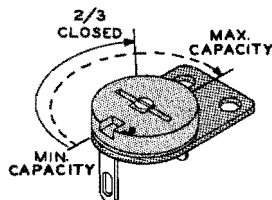

Figure 28
- (✓) Set the Carrier Oscillator trimmer capacitor C80 2/3 closed. See Figure 28.
- (X) VOX SENSITIVITY - Clockwise.
- (X) FUNCTION switch PTT-VOX.
- (X) With the Transmitter key down, tune the DRIVER and FINAL TUNE controls for full output power.
- (X) Tune the station receiver to maximum "S" meter reading on the Transmitter Frequency. Shorten the receiving antenna so that with the receiver RF gain full on (with no transmitter output) the "S" meter indicates zero "S" units and full scale with maximum transmitter output.
- (X) Now change the transmitter and receiver MODE switches to USB. Maintain the receiver setting. Using a temporary jumper, short microphone pin 2 to ground. This will key the Transmitter. Be sure the AUDIO GAIN control is counterclockwise.
- (X) Rotate Carrier Null potentiometer, R118, until a minimum receiver "S" meter reading is indicated.
- (X) Rotate Carrier Null trimmer capacitor, C9, until a minimum receiver "S" meter reading is indicated.
- (X) Remove the jumper from pin 2 of the microphone connector.